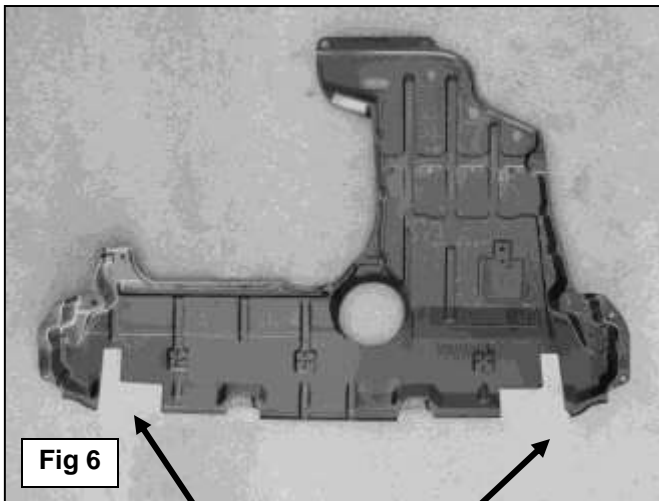

**Fig 4**
6. Place the Sport Bar face down on a clean surface in front of the vehicle. With assistance, carefully position the Sport Bar up to the Mounting Brackets. Attach the Sport Bar to the Mounting Brackets using the included (2) 12mm x 40mm Hex Bolts, (2) 12mm Lock Washers, (2) 12mm Flat Washers, (**Figure 4**).